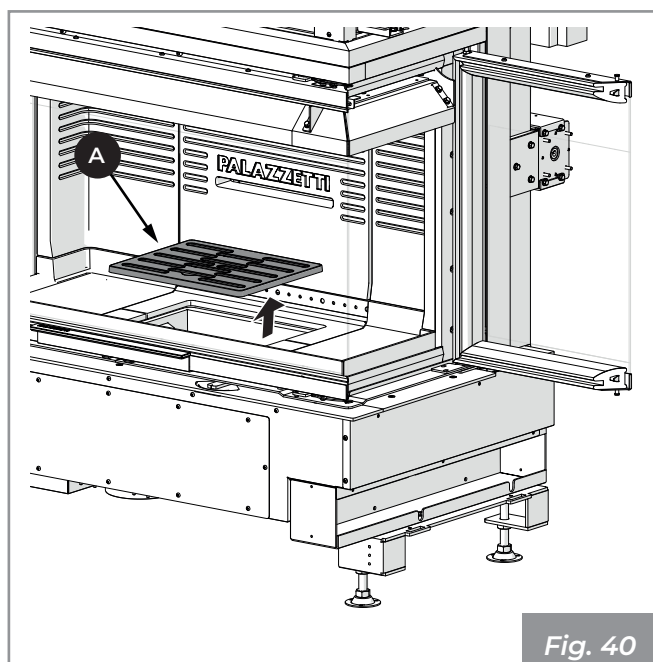

Fig. 40
- 1) Make sure that the grate (A) (Fig. 40) is free from any combustion residues that may obstruct the free passage of air. Remove it and clean the fire box using a hand brush (not supplied) conveying the combustion residues into the ash drawer. Pay attention to any burning embers.